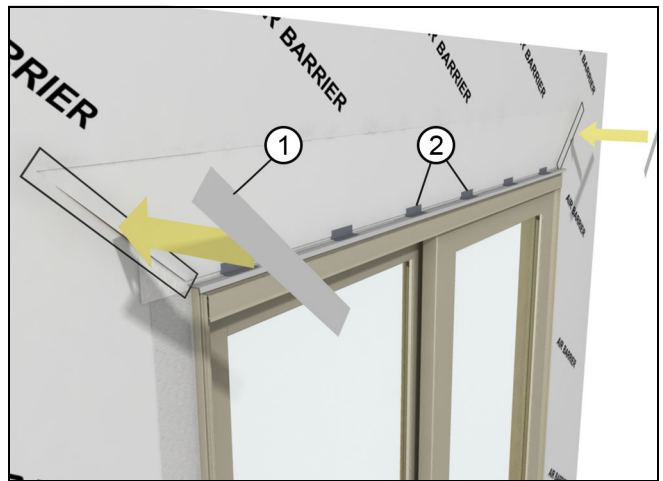

Figure 40
5. Fold the head jamb air barrier down over the head jamb flashing. Apply seam seal tape over the diagonal cut in the air barrier. Make sure the tape laps onto the unit or casing. Cut 3" (76) strips of tape and install every 12" (305) along the head jamb. Tape and seal any seams and fasteners directly above the unit. See Figure 40.